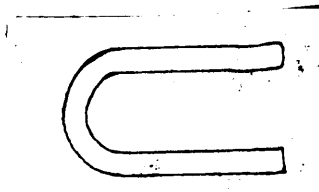

Figure 1.
4. Heat the center section of stock and bend over the horn to the "U" shape. (Figure 1.)